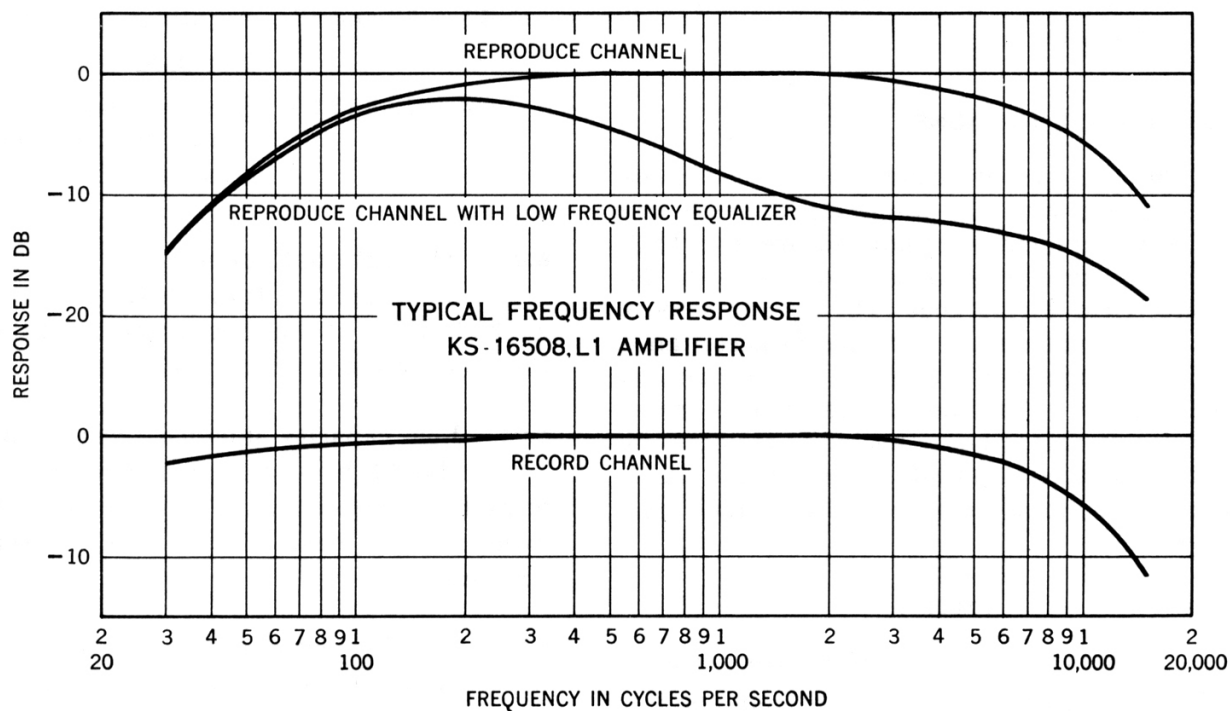

Fig. 4 – Frequency Response
7.01 Fig. 4 shows the frequency response of the reproduce and record channels. The middle curve in the figure shows the effects of low frequency equalization on the reproduce channel. This equalization is normally provided.